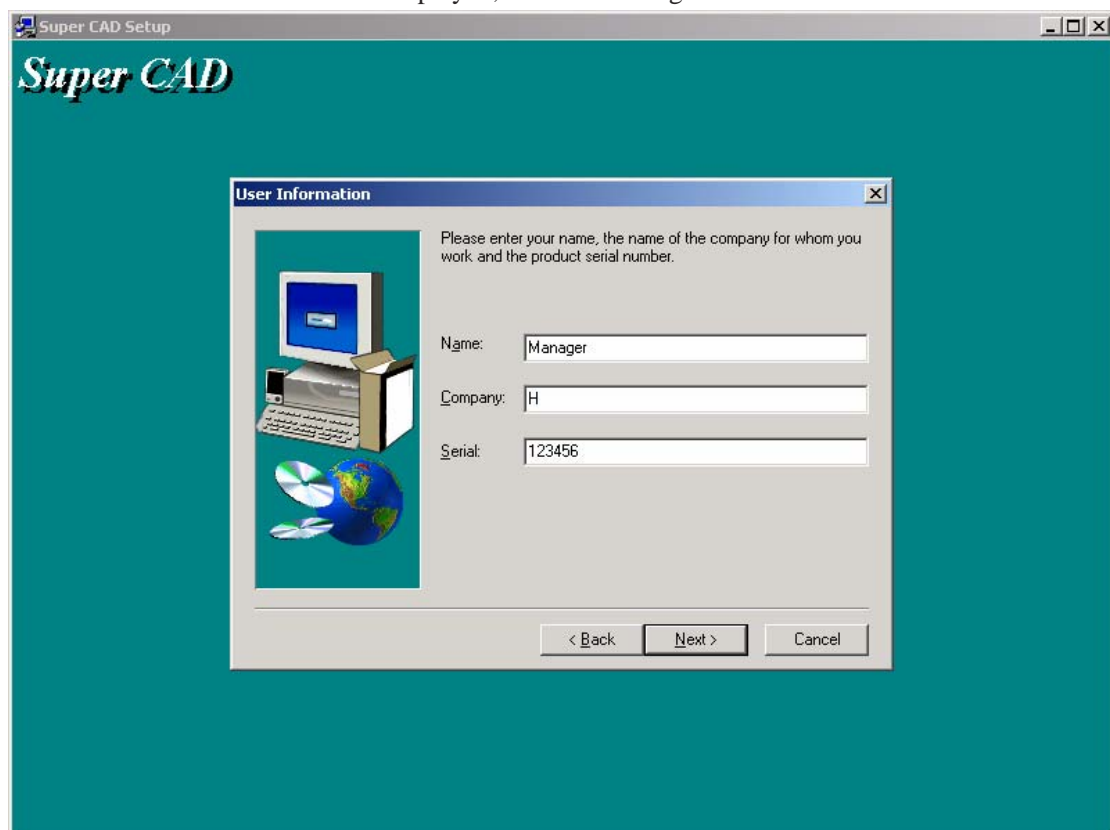

Fig 1.3 User Information Window
3. If you agree with the above License Agreement, click [Yes] to enter the next step. The User Information Window will be displayed, as shown in Fig. 1.3.
- If you click [BACK], the previous installation window will appear, as shown in Fig. 1.3